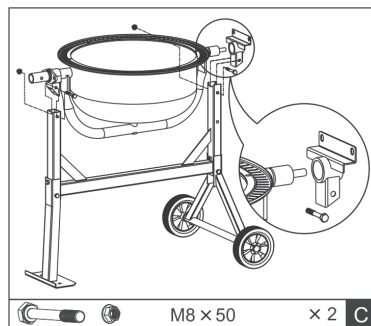

Fig.7
4. Slide the bearing onto the shaft of the drum and secure it with the spiral ring. Place the lower part of the drum (in pairs) into the drum frame. The longer end of the shaft points in the direction of the stand. Fasten the drum on both sides with an M8x50 screw and nut (C). Tighten the screw connections. See Fig. 7.